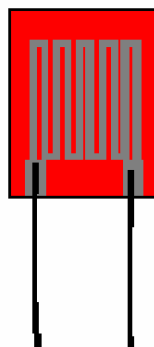

Figure B-2
*Strain Gauges:* A strain gauge measures the displacement of a surface when it is subjected to stress. The gauge is mounted securely to a surface (usually with super glue). When the surface stretches because of an external force, a tiny difference in the distance between the wires of the strain gauge is created. This results in a small change in wire resistance. The change in resistance of the strain gauge will give a signal proportional to the displacement at the end of the beam. Figure B-2 shows a typical strain gauge.